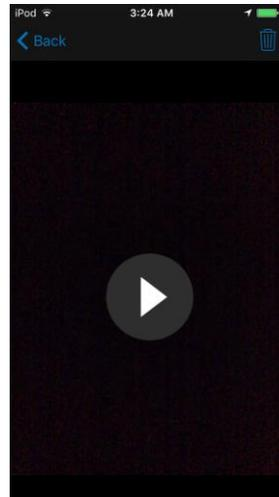

Figure 11: Viewing a Saved Video
- Tap the thumbnail of an image/video of interest and the selected image/video is displayed. A video is indicated by the overlaid play  icon as depicted in Figure 11.